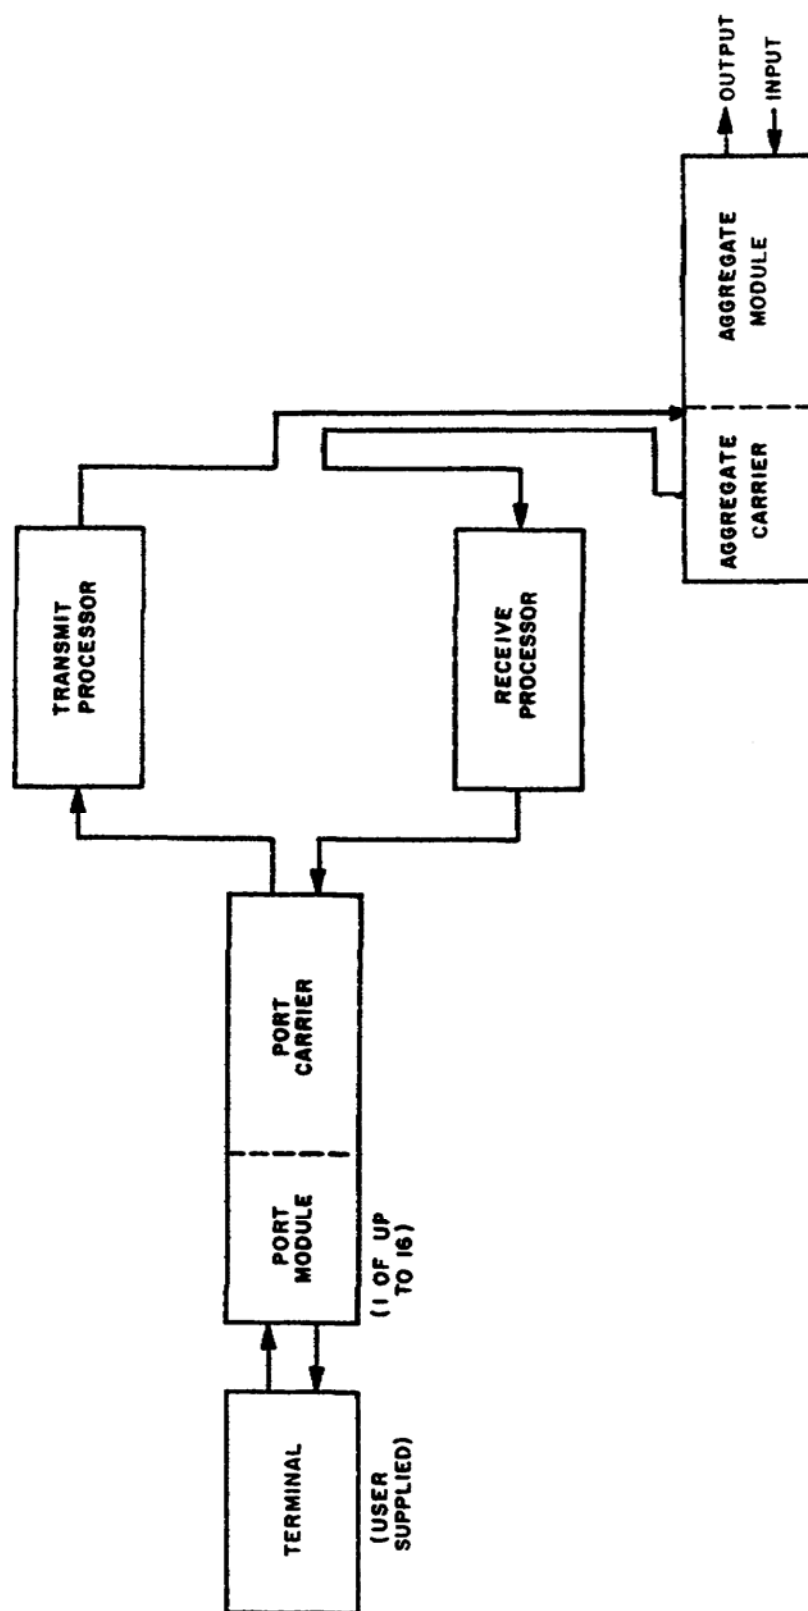

Figure 5. Data Flow, Overall.
(1) Data from user terminals enters the AN/FCC-100(V) on backplane connectors. Data signals are carried by the backplane to the card edge connectors on the port carrier modules.
(2) Data can be sensed at TP-10 (odd port) and TP-9 (even port) on the port carrier module. The data goes to the appropriate port modules. The transmit processor gets data from the ports one character at a time and sends it to the aggregate and aggregate carrier modules. (The shared logic module is not part of the user data path. It provides control information which is used by the transmit processor module.) The aggregate carrier module sends each character to the backplane and out the aggregate backplane connector (see figure 5). Along with the user data, the transmit processor adds overhead information to maintain character and frame synchronization.
Data from the user's aggregate channel enters the AN/FCC-100(V) on the backplane connector. These data signals are carried by the backplane to the aggregate carrier module (see figure 5). The receive processor demultiplexes the incoming data and sends characters over the backplane wiring to the appropriate port carrier module. (The shared logic module is not part of the user data path. It provides control information which is used by the receive processor module.) The port module processes each character and sends the resulting signal (i.e., data and clock) to the user's terminal. Receive data can be sensed at TP-12 (odd port) and TP-11 (even port) on the port carrier module.